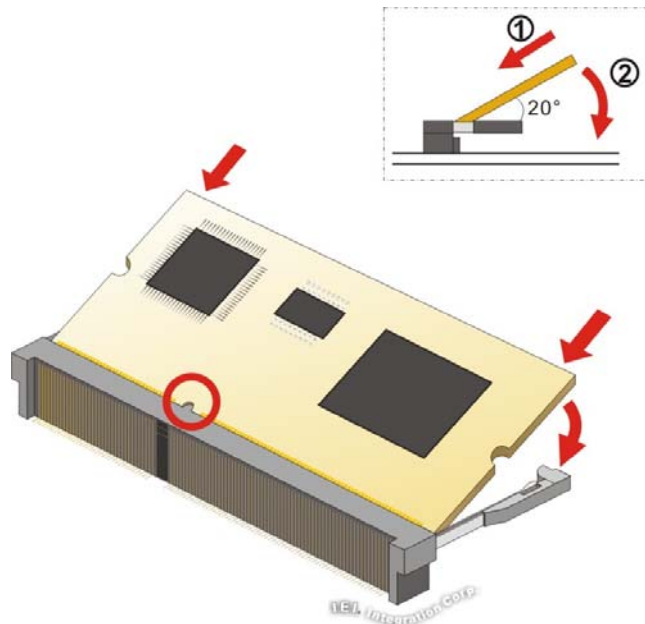

Figure 3-17: iRIS-2400 Module Installation
Step 3: Align the iRIS-2400 module with the iRIS-2400 module slot. Align the notch on the module with the notch on the iRIS-2400 module slot (**Figure 3-17**).
Step 4: Insert the iRIS-2400 module. Push the module in at a 20° angle (**Figure 3-17**).
Step 5: Seat the iRIS-2400 module. Gently push downwards and the arms clip into place (Figure 3-17).